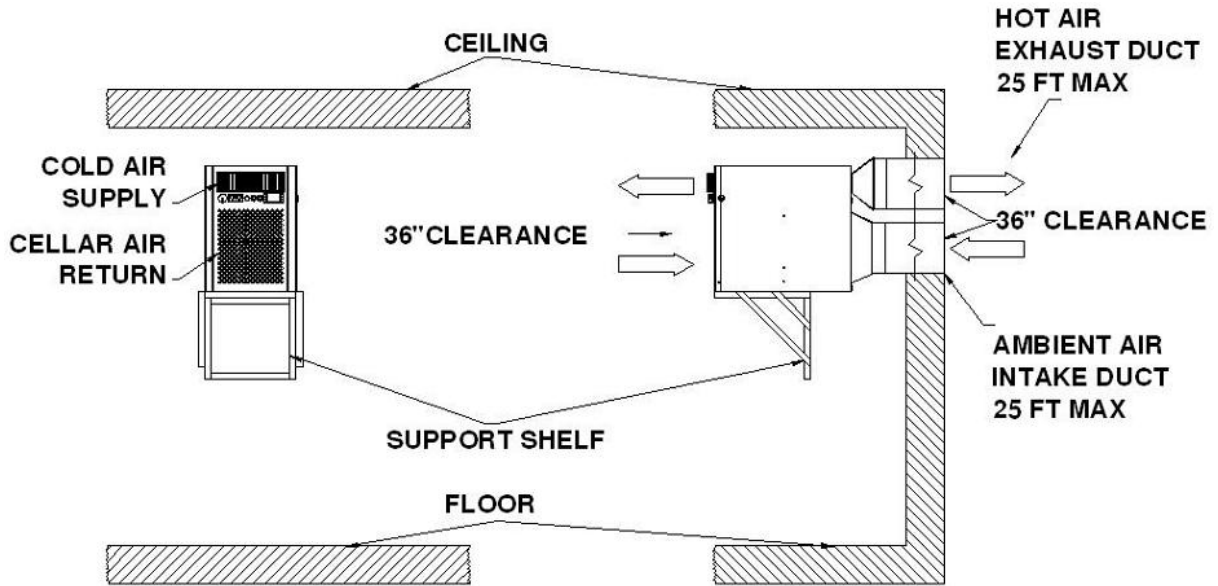

Fig. 8 In-cellar with hot-air exhaust & ambient-air intake ducts
4. In-cellar installation with hot-air exhaust and ambient-air intake ducts (Fig. 8 & 9)